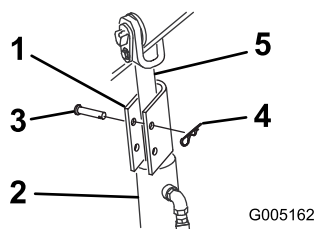

Figure 11
4. Position a loader arm cylinder lock over each lift cylinder rod (Figure 11).
5. Secure each loader arm cylinder lock with a clevis pin and cotter pin (Figure 11).